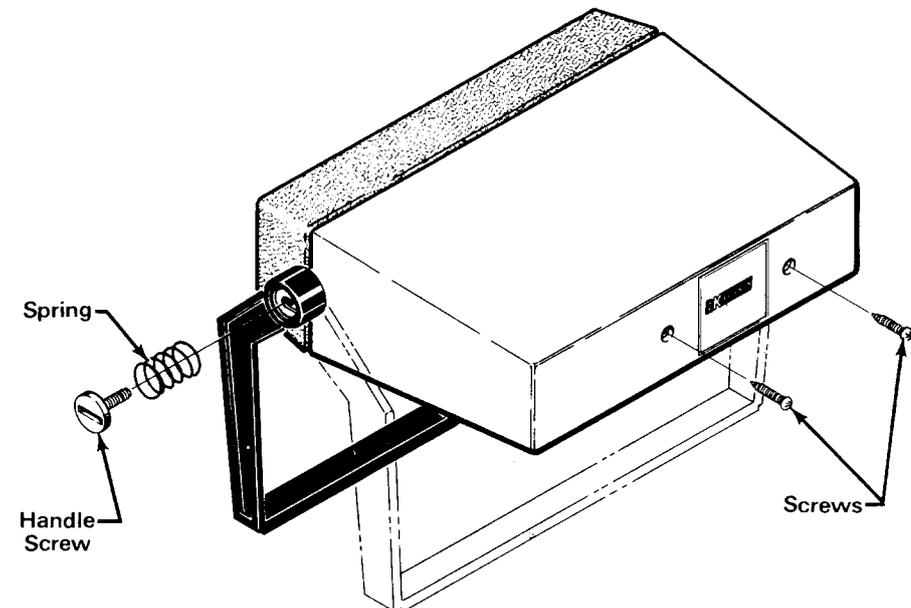

Fig. 17. Removal of rear case.
1. Use a coin (a quarter works best) to remove the two screws that hold the handle to the case. Use caution to avoid losing the springs beneath the screws that hold the handle on the case. Remove the handle. The handle may be reversed if the user desires; refer to Fig. 17.
1. Remove 3010 rear case Refer to Fig. 17.
8. Disconnect the scope probe and counter from the 3010 600 $\Omega$  OUTPUT. Carefully re-install the rear case (refer to Fig. 17)
1. Remove case (Fig. 17).